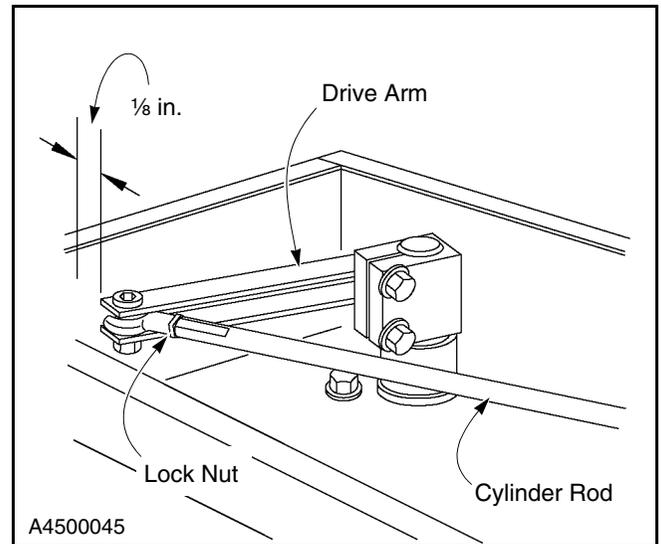

Figure 25
4. Check the position of the drive arm. With the door in the open position, the drive arm should be approximately 1/8-in. from the inside edge of the head assembly. (See Figure 25.)